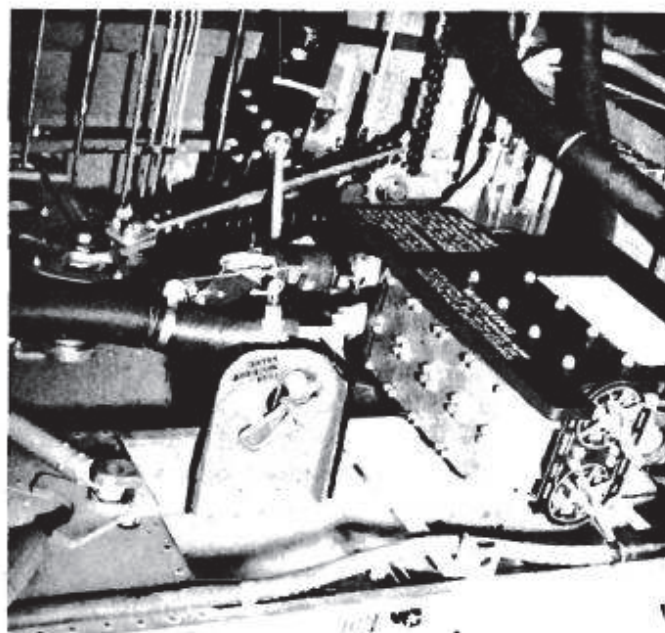

Figure 2 — Fuel Transfer System
*f. FUEL TRANSFER SYSTEM. (See figure 2.)*
(1) **GENERAL.**—Fuel is transferred through a selector valve from the auxiliary wing and bomb bay tanks to the main tanks by a reversible electric pump. Two selector handles with dial markings for each tank are mounted on the inboard side of the selector valve. (See figure 2.) It is possible to transfer fuel from any tank indicated on one dial to any tank indicated on the other, or to transfer fuel between two tanks indicated on the same dial by first pumping into an intermediate tank. The direction of fuel flow is determined by the setting of the three-piston transfer pump switch. The switch is pushed forward to pump from tanks indicated on the aft dial to tanks indicated on the forward dial, and pushed aft to reverse the flow. The switch must be turned "OFF" immediately when the warning light glows, denoting that the tank from which fuel is being pumped has been emptied. The pilot's fuel gage should also be constantly checked.